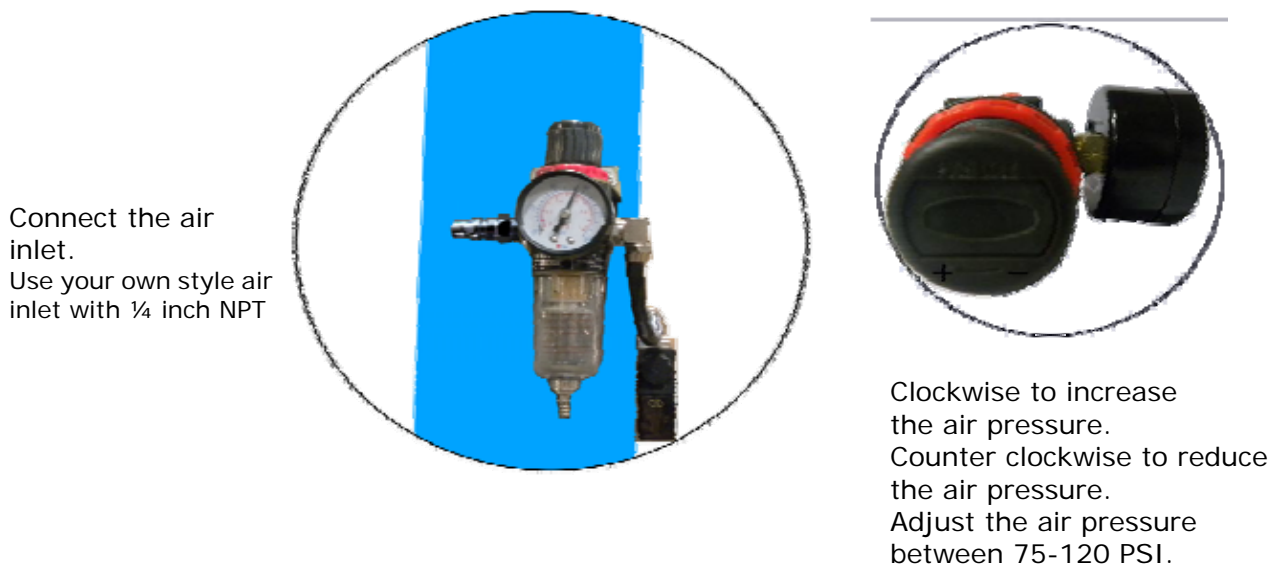

Fig. 29
5. Connect the air 1/4NPT air inlet (not supplied). Adjust the air pressure on the water separator regulator between 75-120 PSI **(See Fig. 29).**